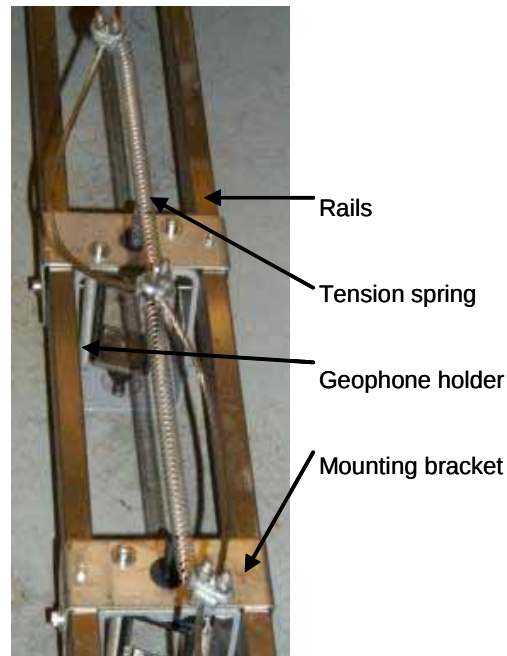

Figure 108. Mounted geophone holders to raise/lower bar.
5. Attach the tension spring (figure 108). The tension spring helps take up cable slack on the top of the raise/lower bar when the bar is fully raised.